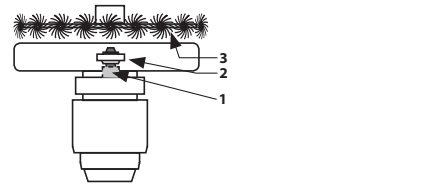

Fig. 13C
- Angle grinders intended for disc diameters of 115 mm or 125 mm can be used for wire cup brushes with a diameter of 65 mm. Wire cup brushes with a larger diameter are too heavy for these angle grinders, which manifests itself by means of high vibrations, which will damage the angle grinder. Wire cup brushes with a diameter of 75 or 80 mm are intended for angle grinders intended for a disc diameter of 150 mm, and wire cup brushes with a diameter of 100 mm are intended for angle grinders with a disc diameter of 230 mm. The maximum permitted diameter of a radial braided brush for angle grinders intended for 115 mm discs is 100 mm. For 125 mm angle grinders it is 115 mm and for larger angle grinders it is 125 mm. Install the radial brush (fig. 13c) on to the spindle of the angle grinder 1 on the bottom washer 2 in the orientation shown in fig. 13C, i.e. with the brushes facing upwards, and then firmly tighten it using a wrench. In order to ensure the protection of the user, the wires of the brush must not touch the guard and at the same time the brush must not protrude above the guard. Without the washer (2), the wires will touch the guard, which is forbidden.